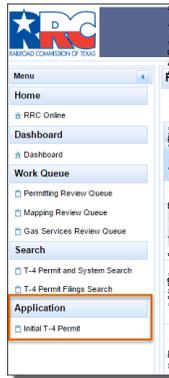

Figure 25: Applying for a New T-4 Permit, Step 1
1. Click the **Initial T-4 Permit** link in the left navigation area of the screen, as depicted in Figure 25 below.